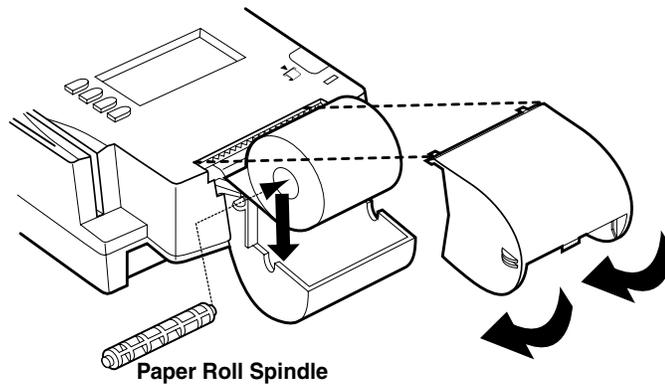

Figure 8 Paper Roll, Spindle, and Cover
7. Replace the cover by inserting the two front tabs first and lightly pushing down until it snaps into place (Figure 8). Ensure the paper's edge is outside the cover.